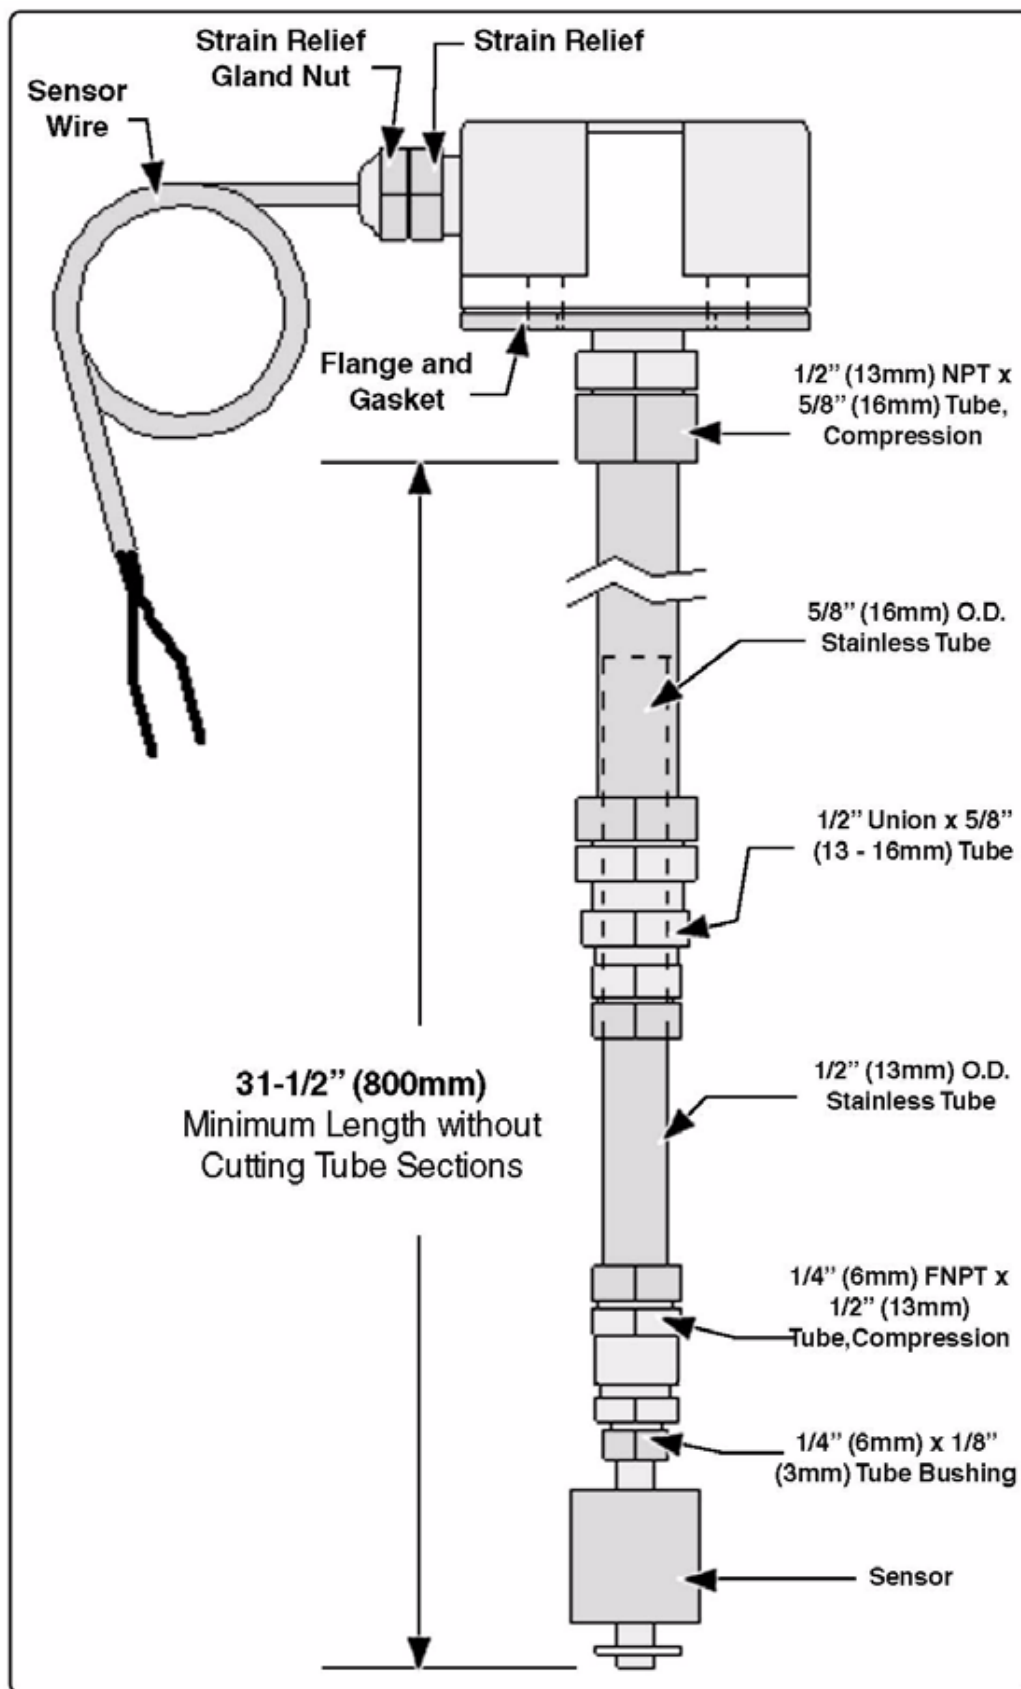

Figure 55: Top Mount Low Level Sensor Assembly
6. Adjust the telescoping section until the desired length is achieved as measured from the bottom of the flange to the bottom of the sensor. Tighten the compression fittings on the union to lock length setting (**Figure 55**).
Certain applications may require the top mounted sensor to be shorter than factory length (see **Figure 55: Top Mount Low Level Sensor Assembly**).